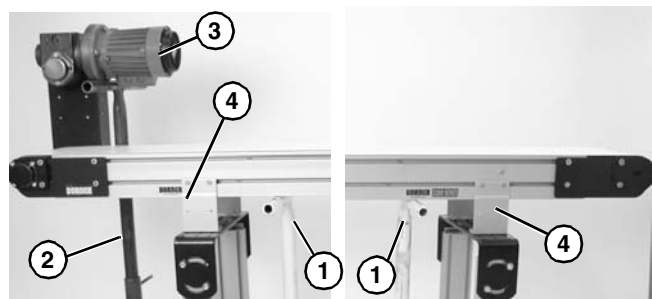

Figure 21
- Place temporary support stands (**Figure 21, item 1**) at both ends of the conveyor. Place an additional support stand (**Figure 21, item 2**) under the drive motor (**Figure 21, item 3**), if equipped. See WARNING.
- Remove mounting brackets (**Figure 21, item 4**) from one side of conveyor. (Reverse steps 3 & 4 of “Mounting Brackets” section on page 9).
1. Ensure temporary support stands (**Figure 21, item 1**) are placed at both ends of the conveyor. Place an additional support stand (**Figure 21, item 2**) under the drive motor (**Figure 21, item 3**), if equipped. See WARNING.